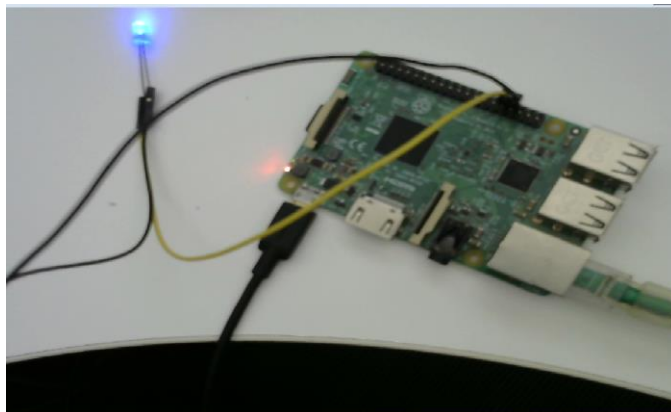

Figure 7: Dimming the LED using a PWM signal.
1. Connect the **LED**, as shown in Figure 7.